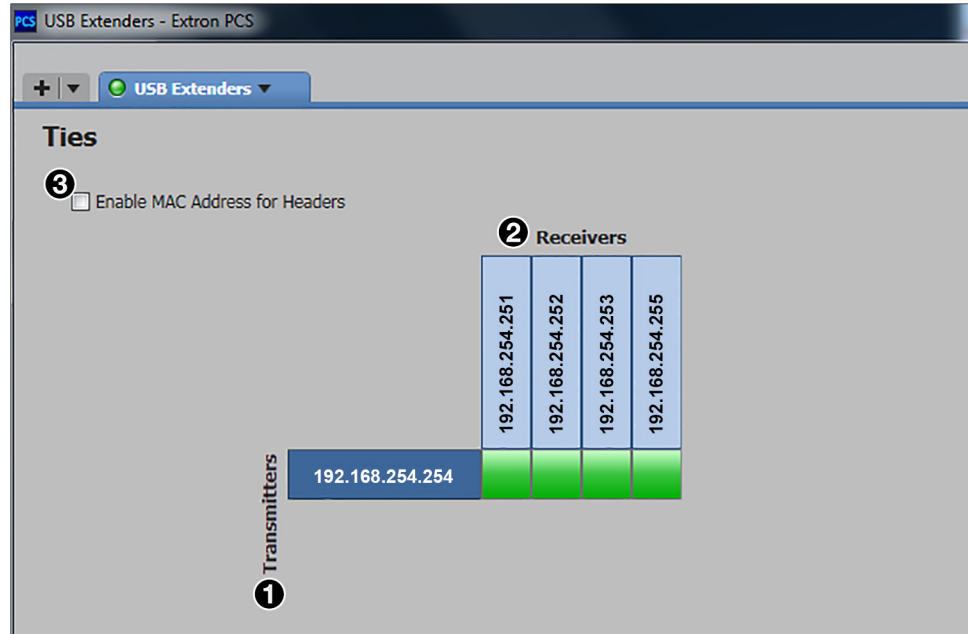

Figure 31. USB Extenders Ties Screen
3. Click **Connect** (2). The **Ties** screen appears (see figure 31 on the next page).